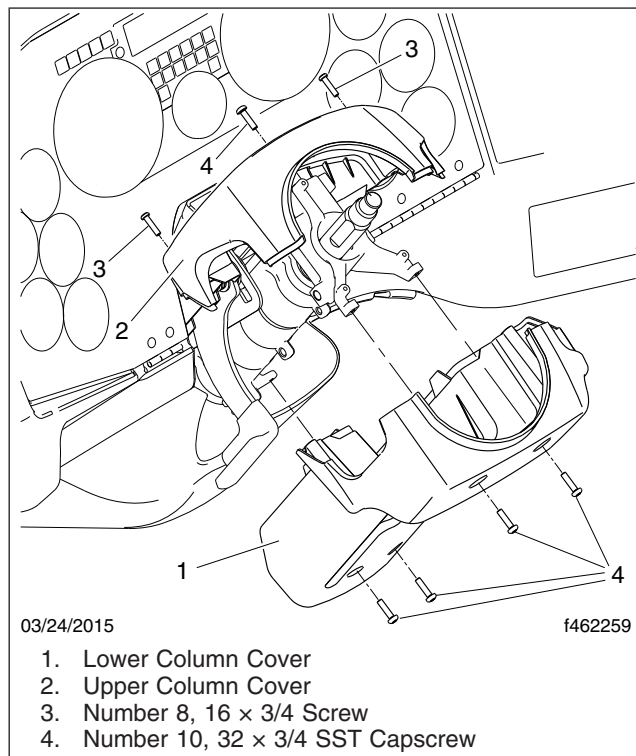

Fig. 1, Steering Column Assembly
3. Remove the three fasteners that attach the upper steering column cover, and the four fasteners that attach the lower steering column cover to the steering column. Remove the column covers from the vehicle. See Fig. 1
6. Position the lower column cover on the steering column, then install the four screws that attach the lower column cover to the steering column. See Fig. 1. Tighten the screws 15 to 17 lbf-in (169 to 192 N-cm).
5. Position the lower steering column cover on the steering column, then install the four screws that attach the lower steering column cover to the steering column. See Fig. 1. Tighten the screws 15 to 17 lbf-in (169 to 192 N-cm).